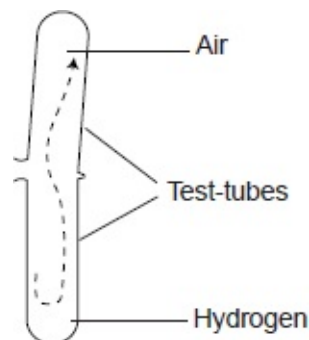

Fig 5.8: The density of hydrogen gas compared to that of air.
- Invert an empty test-tube over the one containing the gas for about half a minute as shown in figure 5.8. Take a lighted splint to the mouth of the upper test-tube as you turn it upright.